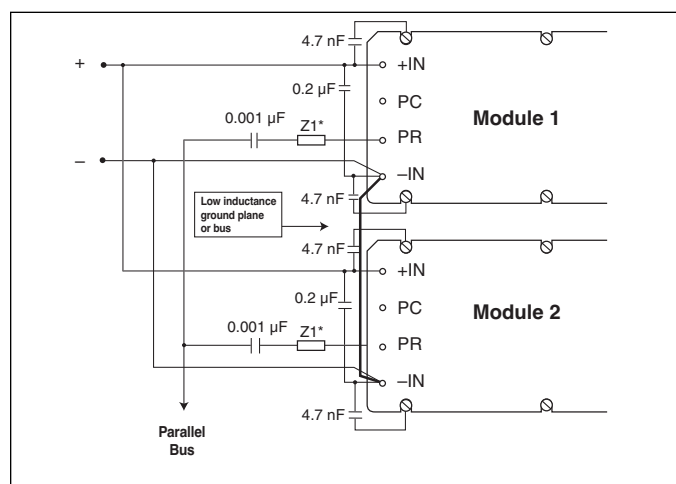

Figure 2-7 — AC coupled single-wire interface
2. AC-coupled single-wire interface: All PR pins are connected to a single communication bus through 0.001  $\mu$ F (500 V) capacitors. This interface supports current sharing and is fault tolerant except for the communication bus. (Figure 2-7) This method may normally be used with a maximum of three converters.